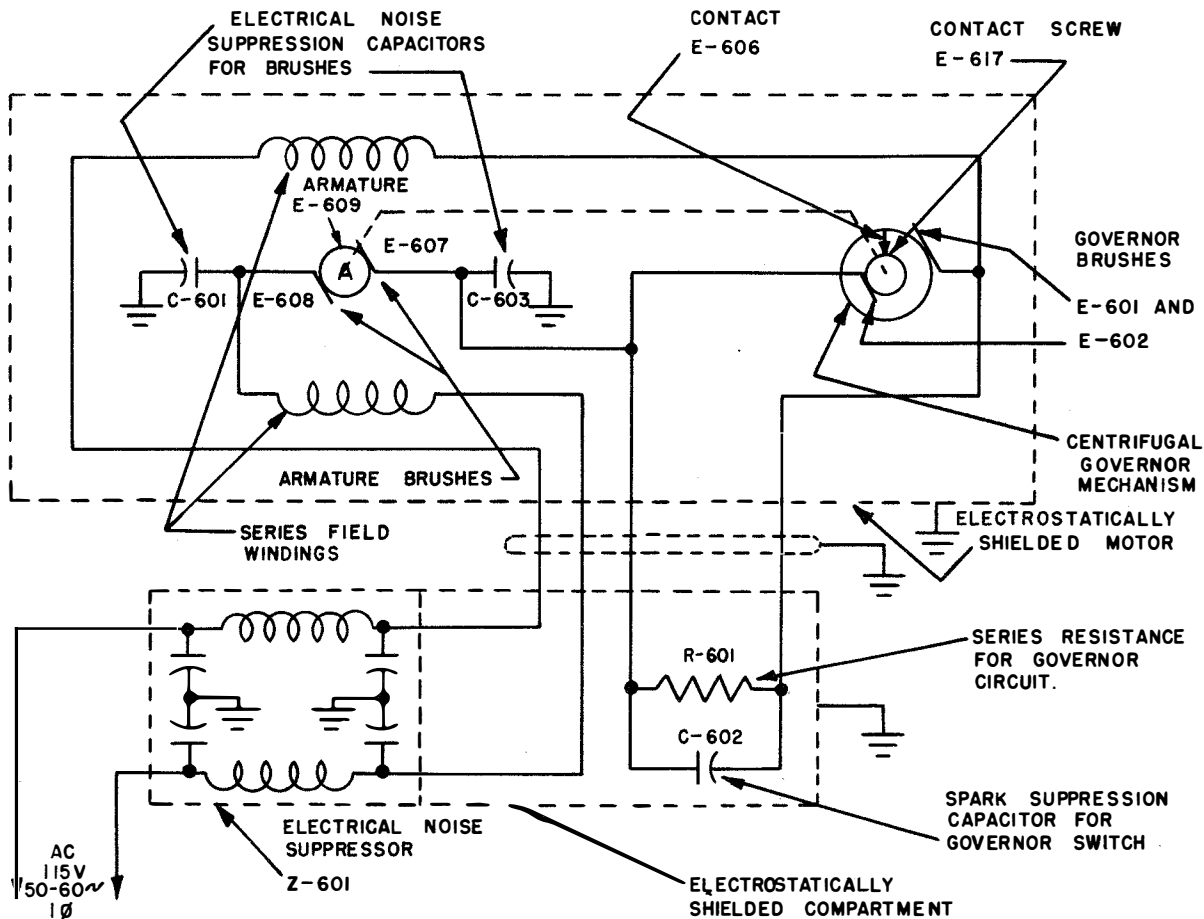
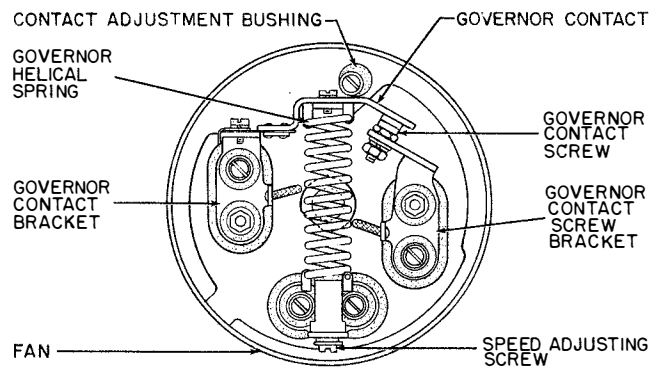

Figure 2-77. AC Motor (Governed) PD-18/U, Schematic Wiring Diagram
Figure 2-78. Governor For AC Motor PD-18/U
c. AC MOTOR (GOVERNED) PD-18/U. (See figure 2-77.)—The series governed motor is for use with single phase, 115 volt (plus or minus 10 per cent) alternating current, at a frequency of 50 to 60 cycles per second. It is a  $\frac{1}{20}$  horsepower, 3600 rpm ball bearing motor which depends on an electro-mechanical governor for its speed regulation. The armature E-609, with a 48 segment commutator is wired in series with the two field windings, and the governor contacts E-606 and E-617. A 250 ohm, 40 watt resistor R-601 and a 0.5 mf capacitor C-602, are connected in parallel with the governor contacts. When the contacts are closed the resistor is shorted out. When the contacts are open the resistor is in series with the motor, to limit its operating current, and thus reduce its speed. The capacitor serves as a spark suppressor for the governor contacts. The combination fan and governor is mounted on one end of the motor shaft. The fan draws cooling air through the motor housing, and also serves as a mounting plate for the governor slip rings and for the governor contact mechanism (mounted on opposite sides of the fan). Connections to the two slip rings, which are wired to the governor contacts, are made by means of two brushes E-601 and E602, mounted on the ends of the motor housing. Normally the governor contact spring holds the governor contact E-606 against the contact screw E-617 (figure 2-78). When the motor shaft exceeds a predetermined speed, the centrifugal force developed on the governor contact overcomes briefly the pull of the governor spring, and the governor contact leaves the contact screw until the motor slows down. The tension on the contact spring may be adjusted to maintain the motor speed at 3600 rpm. In order to make this adjustment, means are provided to compare the motor speed with a standard. An aluminum cover fits against the side of the fan and encloses the governor contact mechanism. The outside of the cover is finished in white, with four black stripes equally spaced about its periphery. This serves as a target which should appear to stand almost